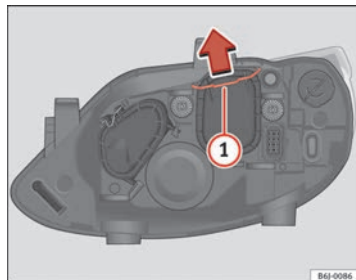

Fig. 161 Dipped beam headlights
- Move the loop ⇒ Fig. 161 ① in the direction of the arrow and remove the cover.